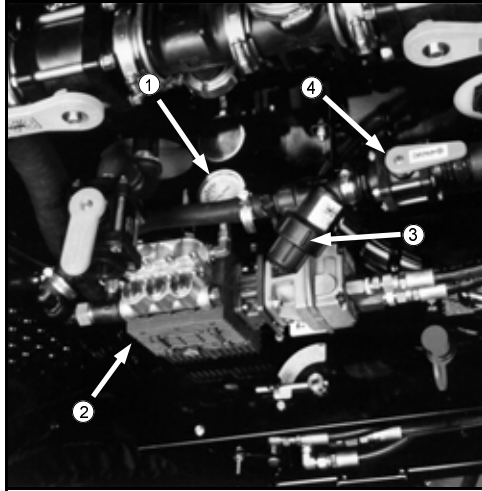

FIG 5.101
OPERATING – To operate the pressure washing system, leave the engine running between 1000 and 1200 RPM. Turn the parking brake on (see page 36). The rinse supply valve for the pressure washer (fig. 5.101, item 4) may remain open unless operating the solution tank rinse system, then you should close it as you open the rinse tank valve (see page 72). Activate the pressure washing pump (fig. 5.101, item 2) with hydraulic valve (fig. 5.102) mounted next to the hydraulic gear pumps.
The sprayer wand (fig. 5.103) is located on the rinse tank. Spray pressure is indicated by the gauge mounted above the pressure pump (fig. 5.101, item 1).